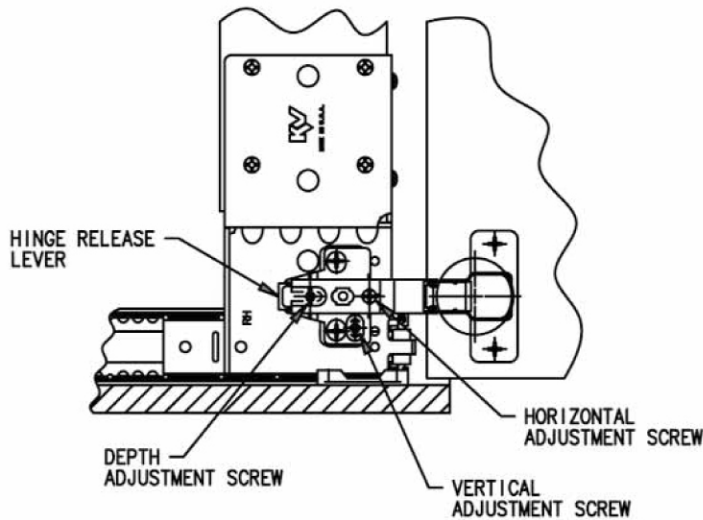

figure 8
- Cut a follower strip 6" shorter than vertical door height. The follower strip should be cut from 3/4" thick x 3" wide stock. Fasten follower strip to slide bracket with (6) #6 x 13/32" pan-head self-tapping screws.
- Refer to Figure 8 for horizontal, vertical, and depth adjustments for hinge.